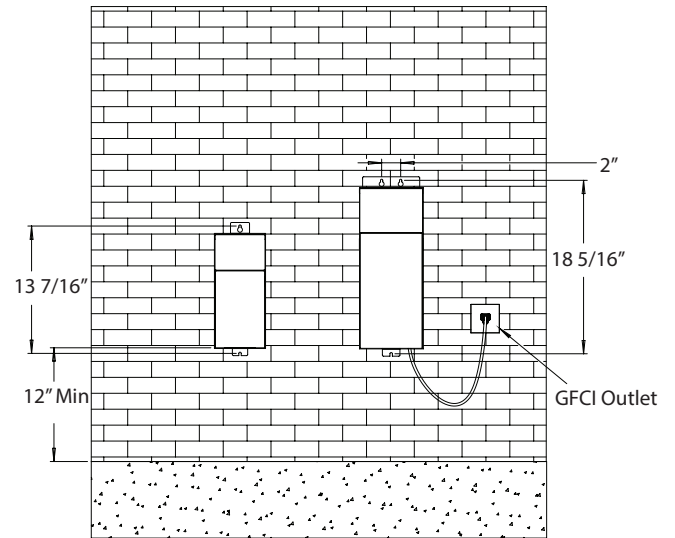

Fig. 1
1. Carefully locate and install the power supply so that it is not in contact with insulation or combustible materials. Provide minimum of 12 inches of airspace around the power supply. Transformer must also be mounted a minimum of 12 inches above grade. (Fig. 1)
2. Securely mount the power supply using the mounting brackets on the power supply enclosure. Drill screw holes at the right locations (see dimensions in Fig. 1) and make sure use appropriate screws for the selected mounting surface.